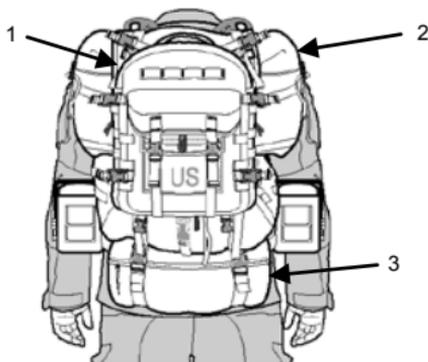

Figure 6. MOLLE II Large Pack Load.
**MOLLE II Large Pack Load.** Consists of the FLC or TAP, Waist Pack (Figure 6, Item 3), Assault Pack (Figure 6, Item 1), and Large Pack (Figure 6, Item 2). The Waist Pack is carried on the bottom of the Large Pack.